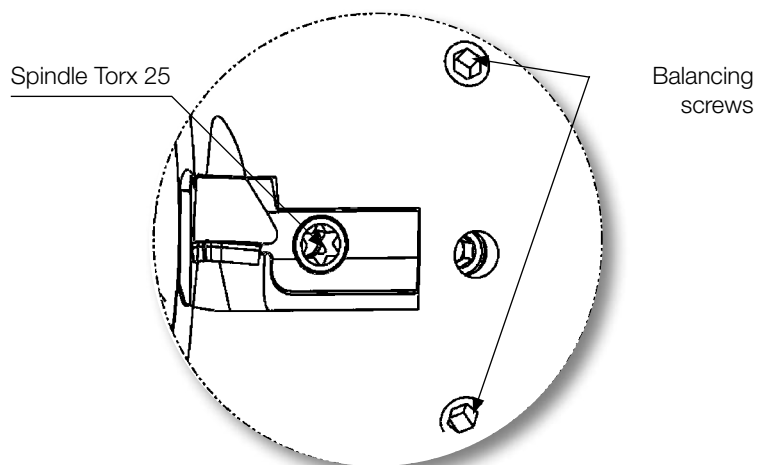

FIG. 4
- From the inner side, screw the spindle clockwise into the clamping wedge (Torx 25), grease the spindle thread and the contact surfaces of the spindle head beforehand with Molykote® assembly paste G-N Plus (fig. 4) **(don't use lubricant containing copper!)**.